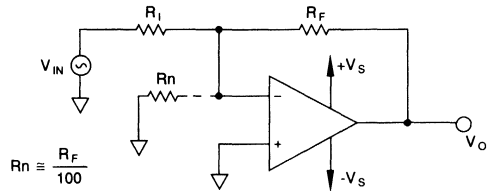

FIGURE 18. LOOP CHECK CIRCUIT
† See Figure 18 for loop check circuit.
*Loop check (Figure 18) will stop oscillation if $R_n \ll |Z_c|$ at UGBW.